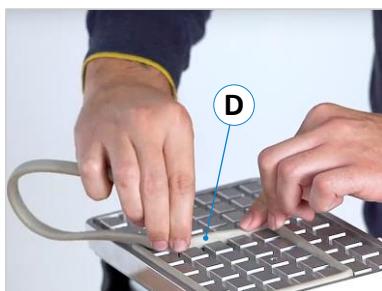

Figure 15: Rubber sealing strip
- By inserting the rubber sealing strip (D) into the finely milled grooves, the vacuum range can be adapted to the size of the workpiece (see ⇒ Figure 15).